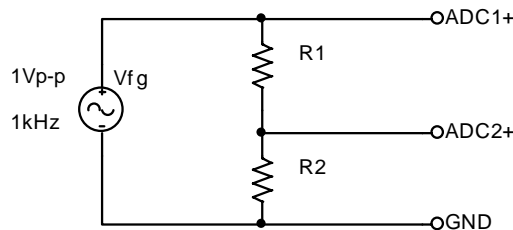

Figure B-6
- Use the function generator, FG, of the IOBoard to put an AC signal on a resistor divider circuit shown in Figure B-6. Set the FG to 1kHz and 1Vp-p. Use $R1=1k\Omega$ and $R2=1k\Omega$. Take data and plot the output using Excel.